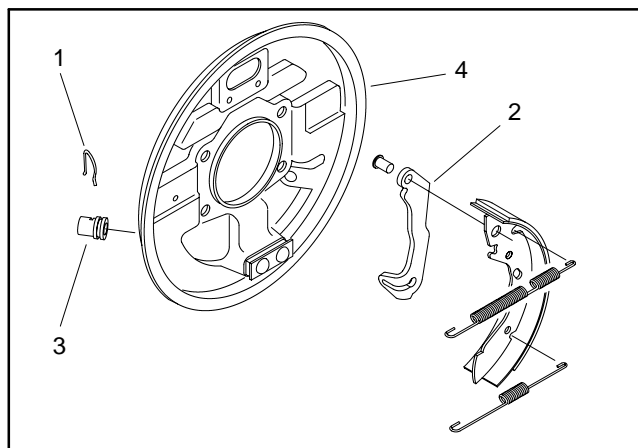

Figure 12
6. Remove cable clip that holds each brake cable into brake backing plate. Remove cable end from parking brake lever (Fig. 12). Pull cable from rear brake assembly.